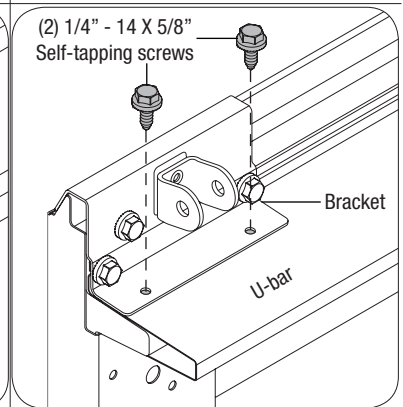

FIG. 1.6
Then attach (2) 1/4" - 14 x 5/8" self-tapping screws to the bracket, as shown in FIG. 1.6.